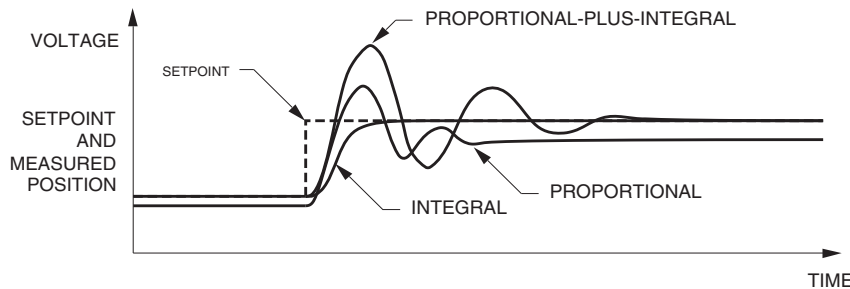

Figure 5-7. Response to a step change in setpoint with proportional, integral, and proportional-plus-integral control modes.
Figure 5-7 shows an example of the response of a typical process to a step change in setpoint with proportional, integral, and proportional-plus-integral control modes :
- ☐ 35. Do your observations confirm the theoretical response shown in Figure 5-7?